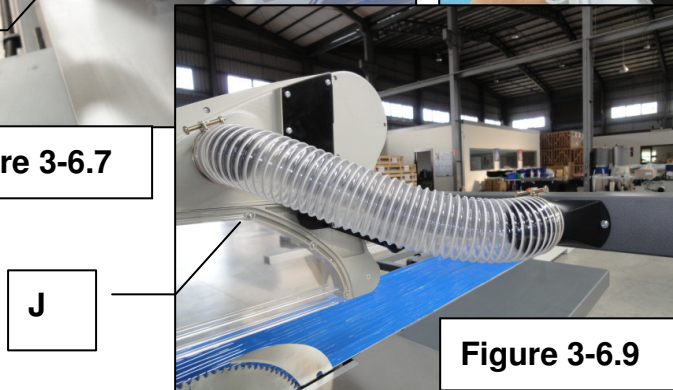

Figure 3-6.9
7. Fix the hose on the blade guard and support arm by using hose clamp(Fig. 3-6.9)